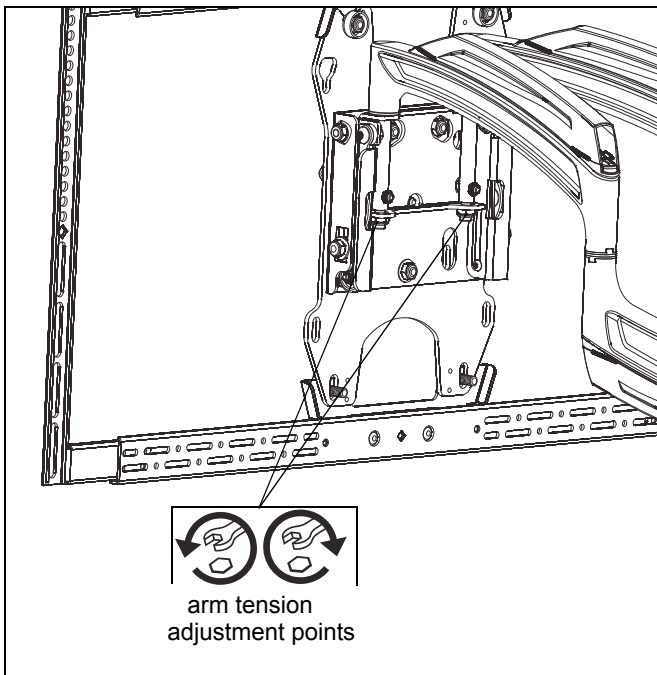

Figure 26
2. Use 9/16" wrench to adjust arm tension directly behind faceplate. (See Figure 26)